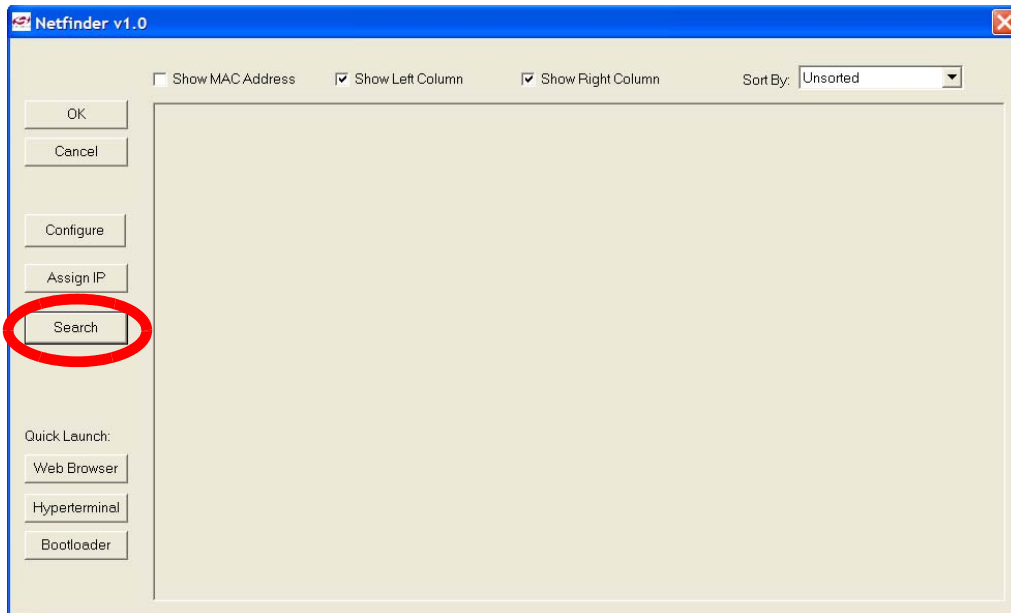

Figure 14. Search Button
2. Press the **Search** button as shown in Figure 14 to begin searching for devices.